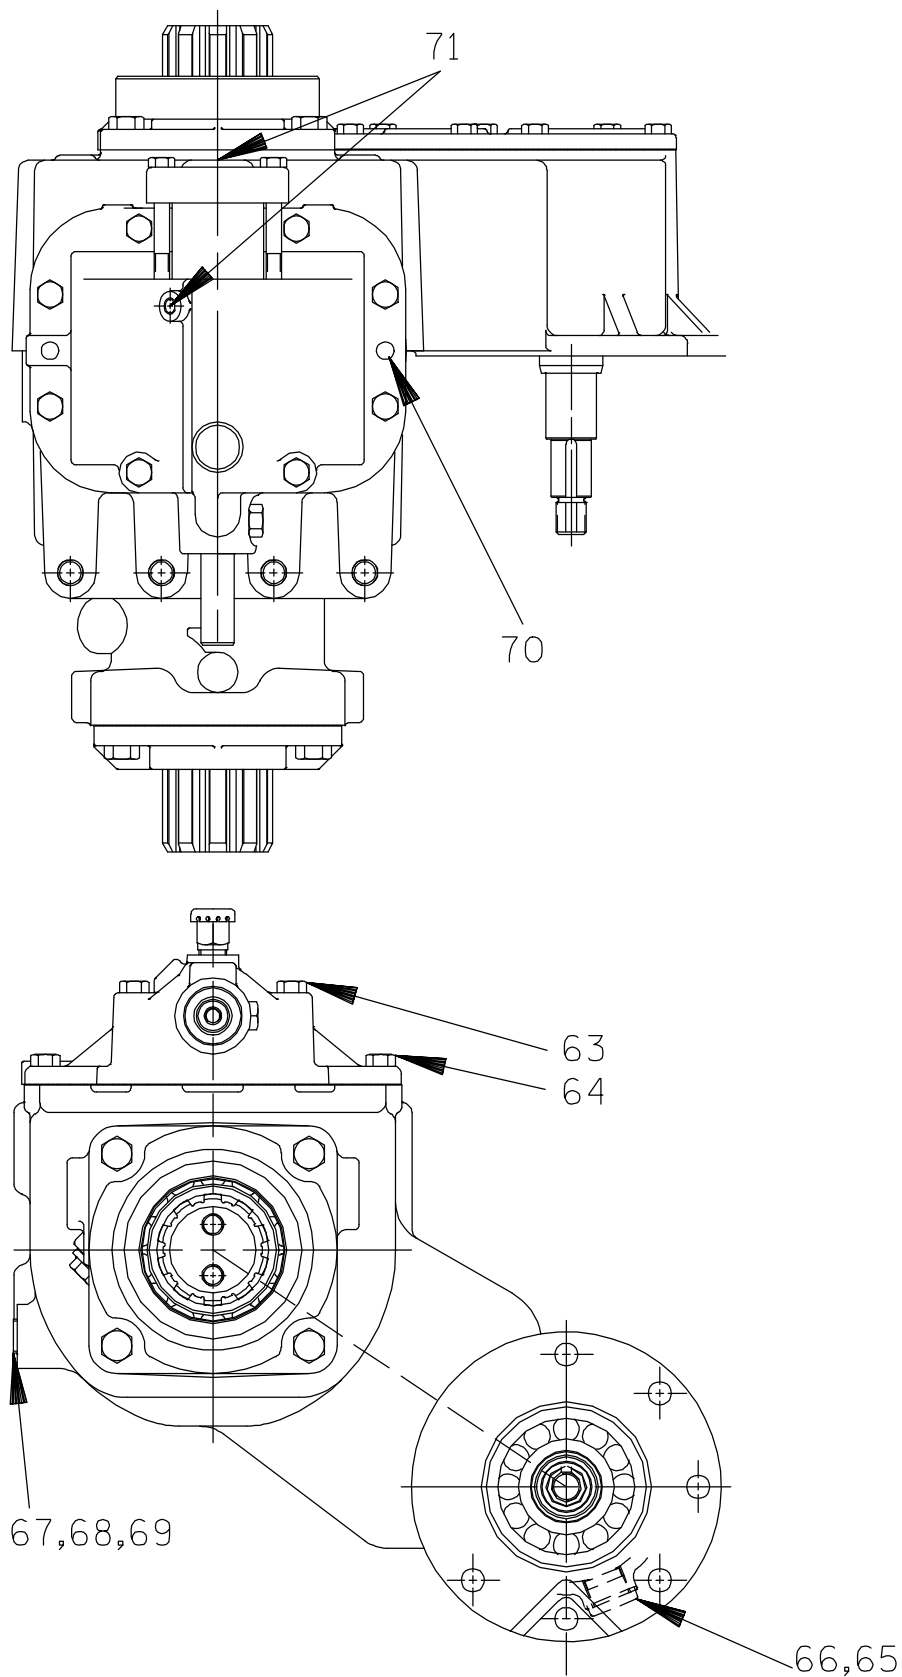

Figure 2A. 44161-146 Gearbox Assembly (Cont'd)
The presence of gearbox lubricant in the seal cavity behind the stationary element indicates failure of the gearbox oil seal (14). Before attempting to remove the seal, remove the gearbox drain plug and gasket (63 and 64, Figure 2A) and drain the gearbox lubricant. Reinstall the drain plug and gasket.